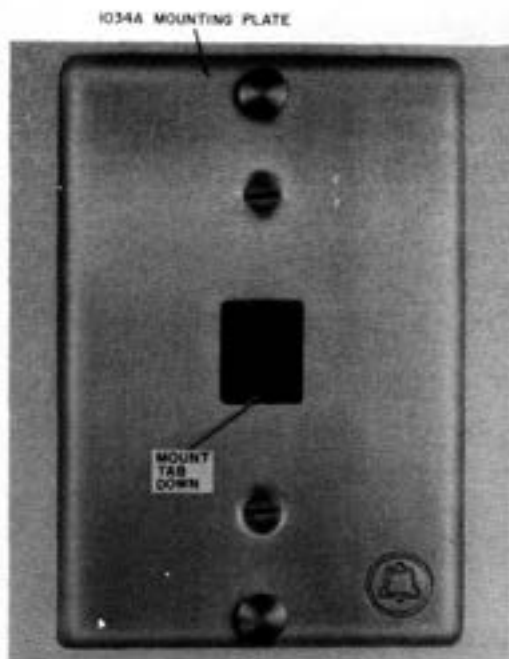

Fig. 10—630A4 Connecting Block (With Mounting Plate)
2.18 The **630A4** connecting block (Fig. 10) is a plug-in wall set mounting and will also accept a modular-type mounting cord. It consists of a con-
3.14 630A4 Connecting Block: This block may be mounted on a 63-type bracket or electrical type outlet box or mounted directly on a wall. In all cases, the block should lie flat against the wall with connector springs oriented to the top and tab to the bottom (Fig. 10). ¶When installing the 630A4 connecting block with the 1034A mounting plate, remove the plastic protection film from the mounting plate.¶